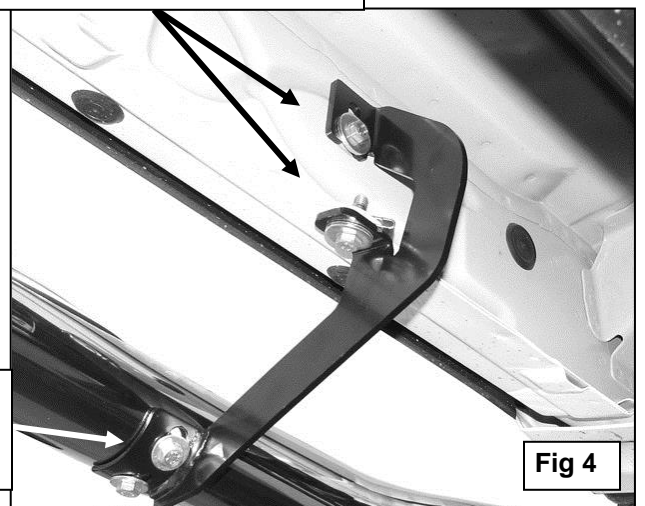

Fig 4
- Select (1) Mounting Bracket. **NOTE:** Brackets are universal and will fit left or right side. Bolt the Mounting Bracket to the Clip Nuts and/or the factory threaded holes with (2) 8mm Hex Bolts, (2) 8mm Lock Washers and (2) 8mm Flat Washers, **(Figure 4)**. Snug but do not fully tighten the hardware.
- Carefully position the Driver Sidebar onto the (3) Mounting Brackets. Attach the Sidebar to the Mounting Brackets with (6) 8mm x 25mm Hex Bolts, (6) 8mm Lock Washers and (6) 8mm Flat Washers, **(Figures 4)**. Do not tighten hardware at this time.